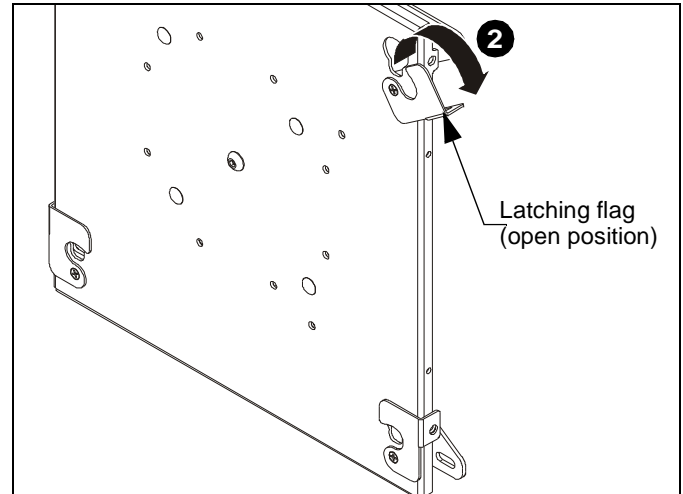

Figure 2
2. Open latching flag at each corner of the MSP-JELPSW2 mount to the "Open" position. (See Figure 2)